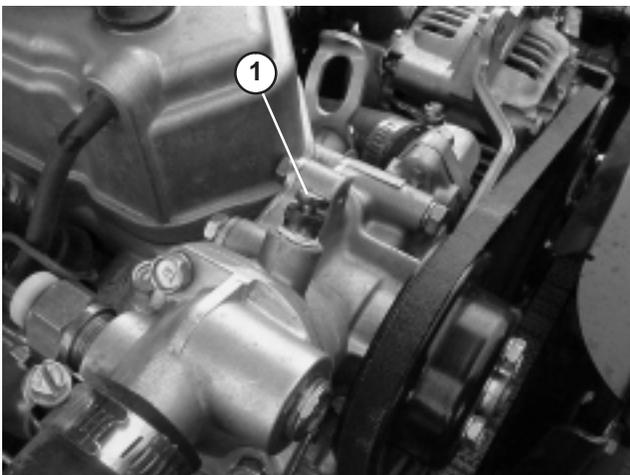

Figure 47
5. Open bleed screw on top of water pump (Fig. 47).